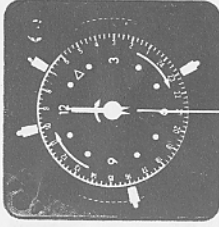

Fig 2 Clock Adjuster
- Position tappets in outer dial as shown. Red tappets switch On, blue tappets switch Off. For example, if you want to switch on between 7 and 10 am and then between 4pm (16.00 on 24 hour dial) and 11pm (23 on dial), tappets are positioned as shown in fig 2. In the event of power cuts etc, remember to reset the clock by turning clock fingers clockwise only using clock adjuster knob.